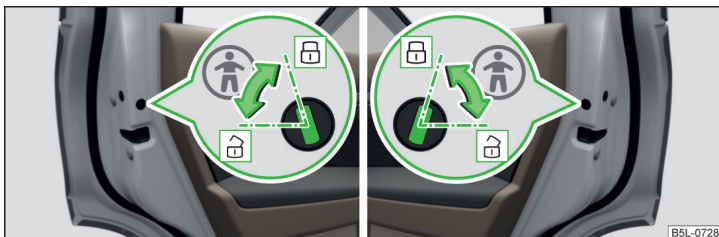

Fig. 34 Rear door: Switching the child safety system on/off
- To **turn on** the child safety lock, turn the vehicle key to position **[B]** » Fig. 34.